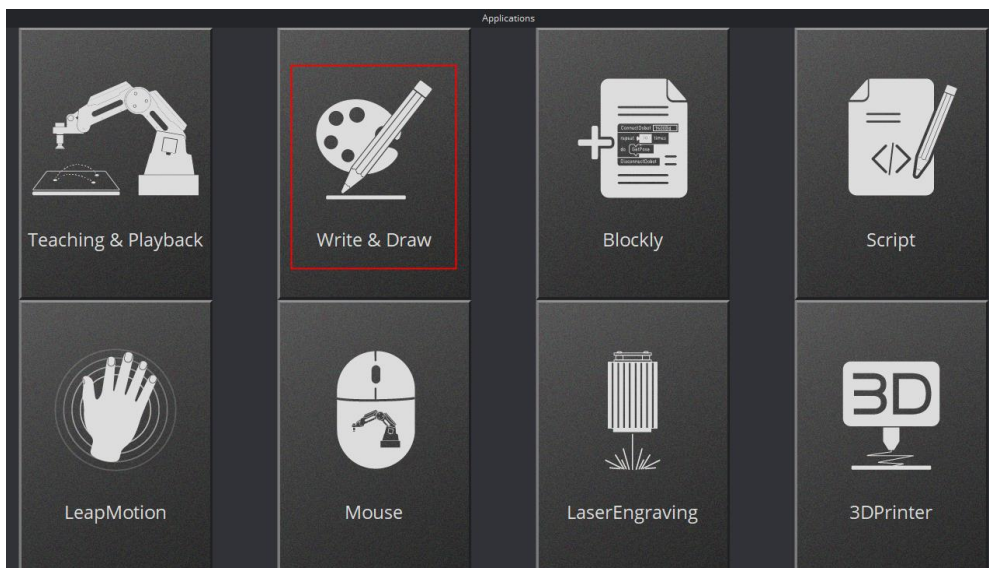

Figure 5.35 Click Write & Draw
Step 3 Click **Write & Draw**, as shown in Figure 5.35.